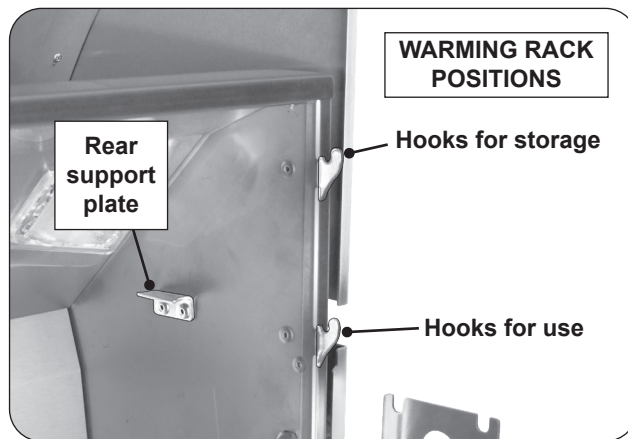
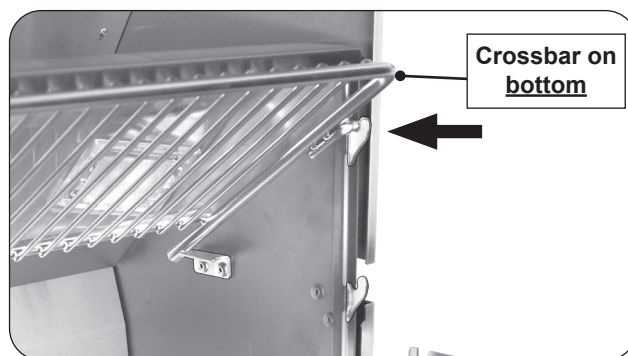

Fig. 26-1 Warming rack hooks
Fig. 26-3 Place warming rack in storage position
1. Locate the warming rack hooks and rear supports found on the upper portion of the grill oven (see Fig. 26-1).
Use the top hooks for storage (see Fig. 26-1 and Fig. 26-3).